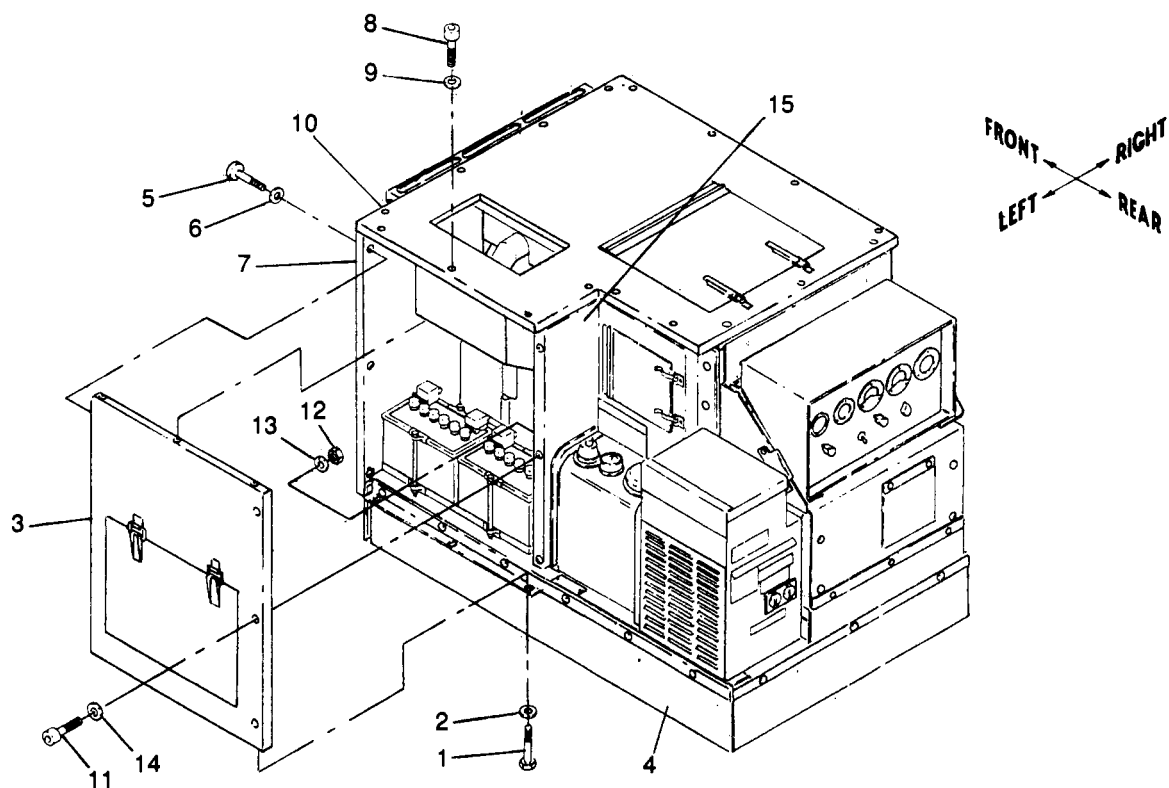

Figure 5-4. Left Panel Assembly, Removal and Installation
a. Removal. See figure 5-4. Remove left panel assembly from left support assembly, side closure assembly, and front and top panel assemblies as follows:
(1) Remove three screws (1) and washers (2) securing left panel assembly (3) to left support assembly (4).
(2) Remove three screws (5) and washers (6) securing left panel assembly (3) to front panel assembly (7).
(3) Remove three screws (8) and washers (9) securing left panel assembly (3) to top panel assembly (10).
(4) Remove three screws (11) and locknuts (12), and six washers (13 and 14) securing left panel assembly (3), to side closure assembly (15) and lift off left panel assembly (3).
b. Installation. See figure 5-4. Install left panel assembly to left support assembly, side closure assembly and front and top panel assemblies as follows:
(1) Position left panel assembly (3) on left support assembly (4) and install three screws (11) and locknuts (12), and six washers (13 and 14) securing left panel assembly (3) to side closure assembly (15) .
(2) Torque screws (11) to 16 \pm 2 ft-lbs dry.
(3) Install three screws (8) and washers (9) securing left side panel assembly (3) to top panel assembly (10).
(4) Torque screws (8) to 18 \pm 2 in.-lbs dry,
(5) Install three screws (5) and washers (6) securing left panel assembly (3) to front panel assembly (7).
(6) Torque screws (5) to 18 \pm 2 in.-lbs dry.
(7) Install three screws (1) and washers (2) securing left panel assembly (3) to left support assembly (4).
(8) Torque screws (1) to 18 \pm 2 in.-lbs dry.